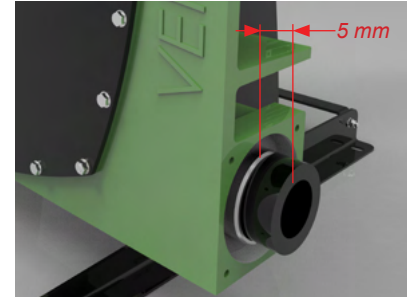

Figure 16b
9. Run the pump towards and and stop when 5mm of the hose is protruding out. (Figure 16b)